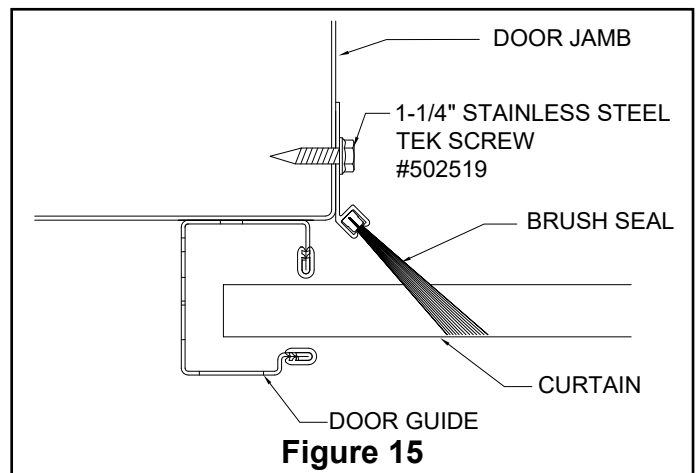

Figure 15
**11.2** Close the door before installing the brush seal. Position brush seal so it just touches the flat portion of the inside of the curtain (See Figure 15). Fasten brush seal to jamb every 12” with appropriate fasteners.